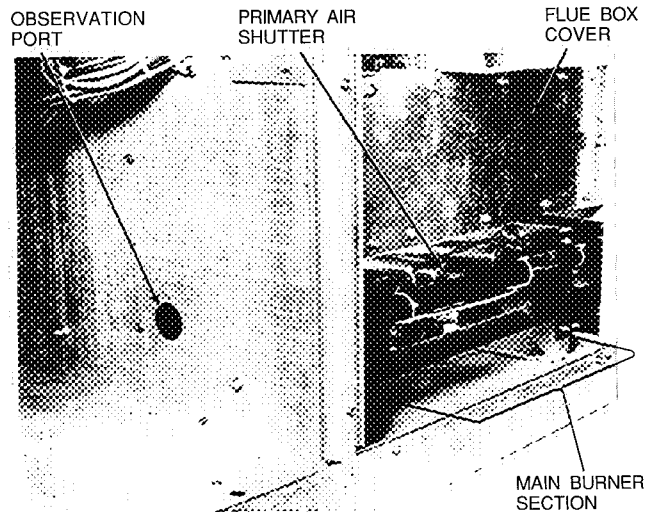

Fig. 5 — Location of Observation Port
4. Adjustment of the air/gas mixture if the burner flames are not bright blue. (See Fig. 5 and 6 for location of observation port and proper flame appearance.)